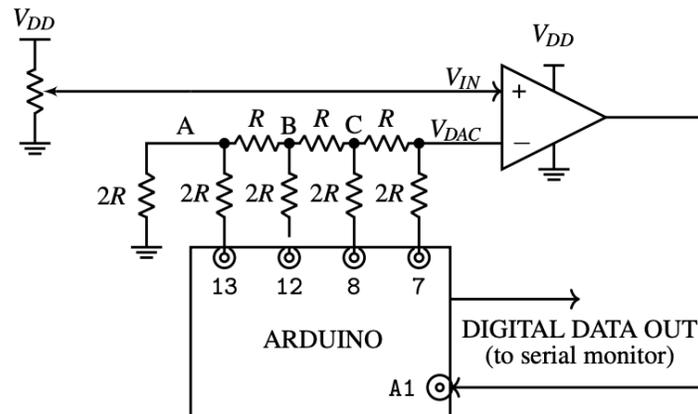

Figure 2: ADC Circuit
3. The SAR ADC circuit implemented in Lab 2 is shown in Figure 2. Consider the following scenarios:
- You've been given a box of mic boards varying from the mic board schematic from lab, and asked to determine whether they can be given to other lab groups to use - but when you arrive at Cory 125, every lab station is full! For the following parts, determine whether each mic board can be feasibly used for S1XT33N, and if so, describe the change in output from the normal mic board (see Figure 2). Provide your reasoning.